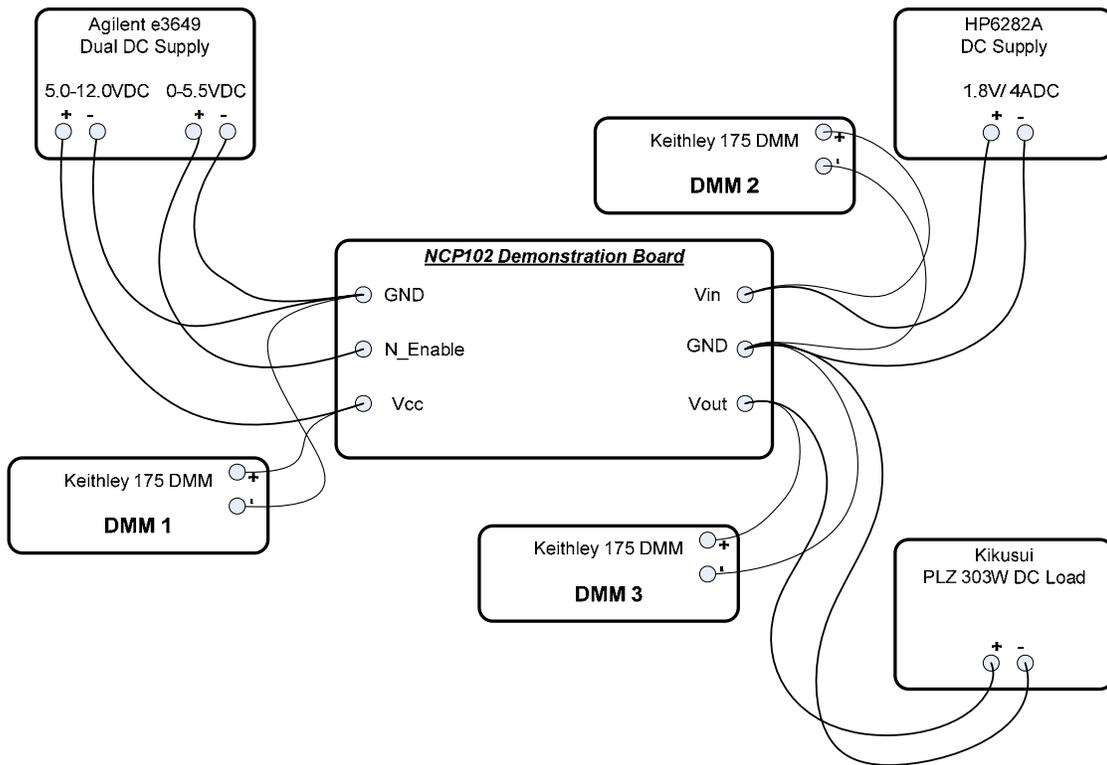

Figure 1 Test Setup
1. Connect the NCP102 Demonstration Board as shown in Figure 1.